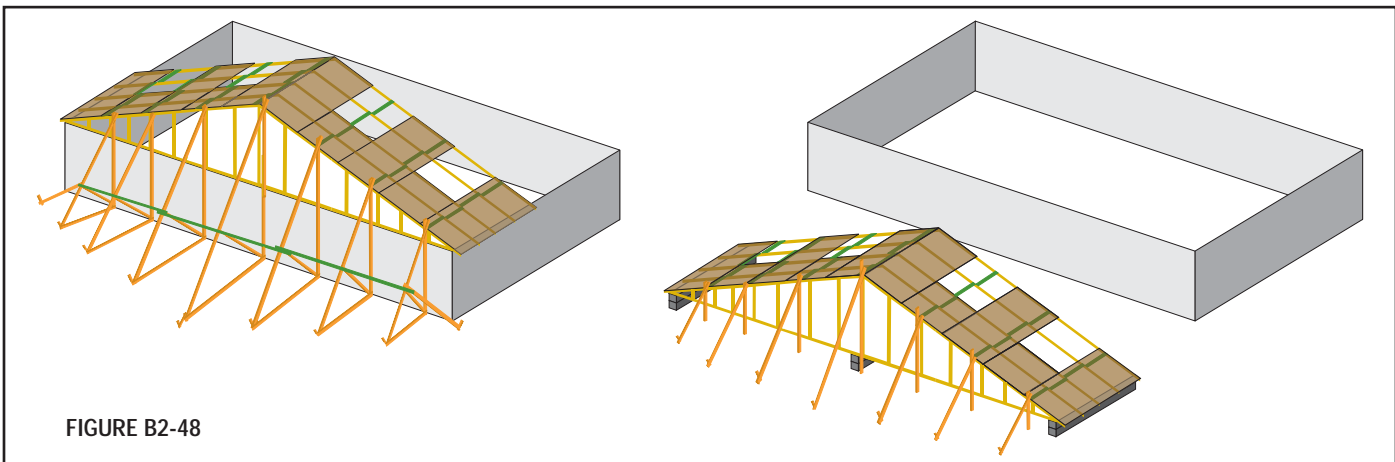

FIGURE B2-48
- ✓ **Build the First Five Into a Stable Base Unit:** Assemble the first five trusses with all Structural Sheathing, restraint and bracing. Some installers lift the first five trusses one at a time and restrain, brace and sheath as they go. Other installers build the base unit on the ground and lift it into place. Either way, this makes the installation process much easier, accurate and safe (see Figure B2-48).